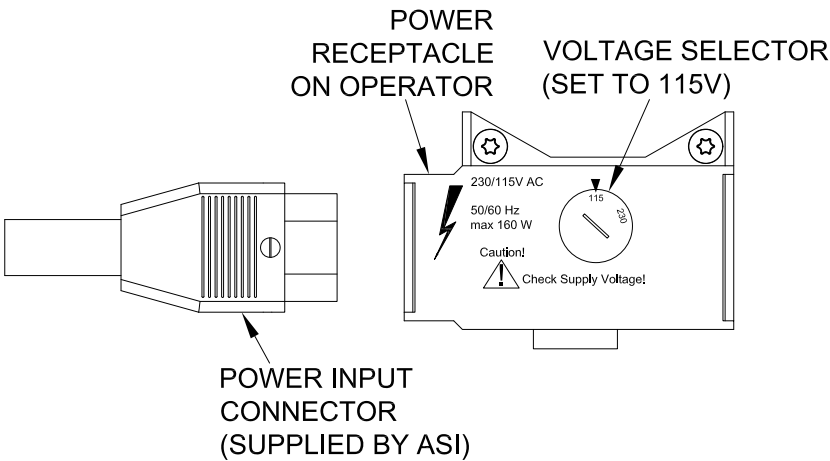

Figure 25: Power Input Connection
9. Connect the power cord to the 115VAC grounded power inlet on the TCP-51 CONTROL UNIT (Page 23, Figure 25). Verify that the voltage setting on the control unit is set to 115VAC. Then route the cord through the header and out to the power source.
2. Check the correct setting of the voltage selector (Figure 25).